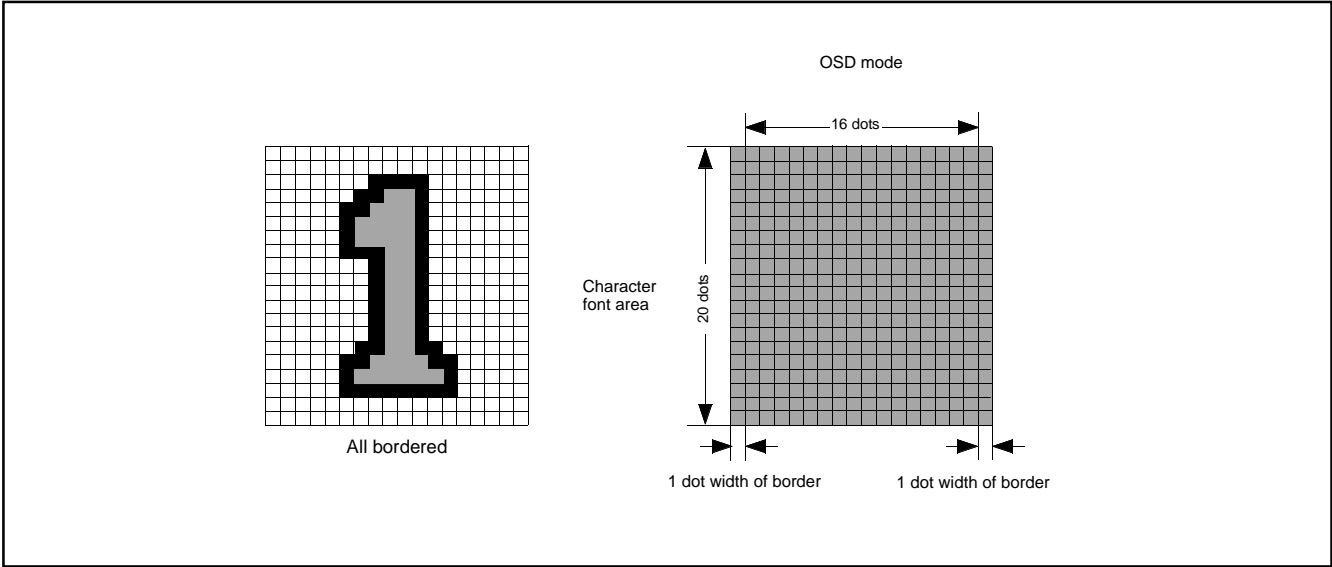

Fig. 8.11.21 Example of Border Display
- Notes 1 :** The border dot area is the shaded area as shown in Figure 8.11.21.